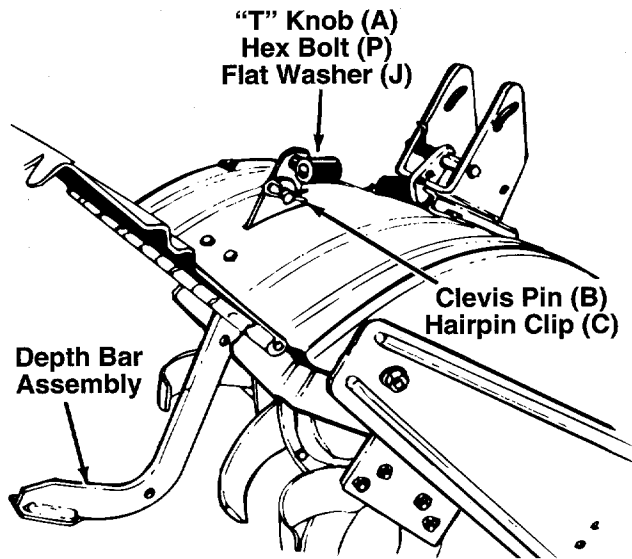
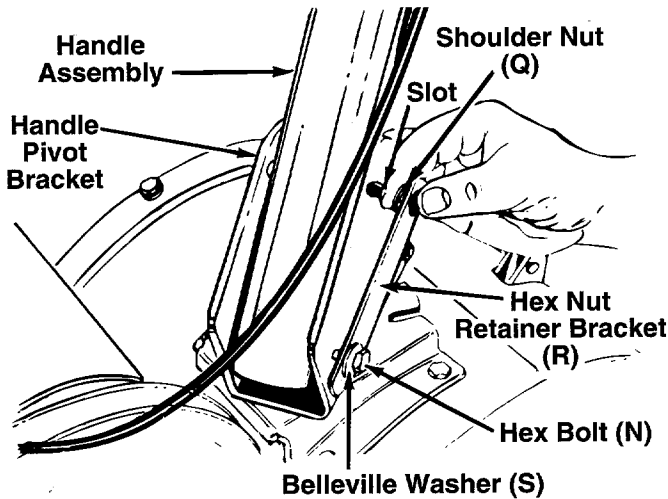

FIGURE 3.
FIGURE 4.
3. Tip the tiller forward so it rests on front counterweight. See figure 3.
4. Raise the tine shield hinge flap assembly. Insert the depth bar assembly between the two shoulder bolts and up through the tine shield assembly as shown in figure 3.
5. Insert clevis pin (B) through the tine shield and depth bar assemblies. Secure with hairpin clip (C). See figure 3.
6. Insert hex bolt (P) into the upper hole of the depth bar assembly. Place flat washer (J) onto the hex bolt and thread small "T" knob (A) onto the hex bolt. See figure 3. Tighten securely.
8. Place belleville washer (S) onto hex bolt (N) (crown side of washer goes against the bolt). Place hex nut retainer bracket (R) on hex bolt (N), using the round hole in retainer bracket.
9. Place handle assembly in position in the handle pivot bracket. Line up the holes in handle assembly with the holes (and slots) in the pivot bracket. See figure 4.
10. Insert hex bolt (with washer and hex nut retainer attached) through the bottom holes on the handle pivot bracket and handle assembly. Head of the hex bolt should be to the left hand side of the unit. See figure 4.
11. Place shoulder nut (Q) between hex nut retainer bracket and pivot bracket. See figure 4.